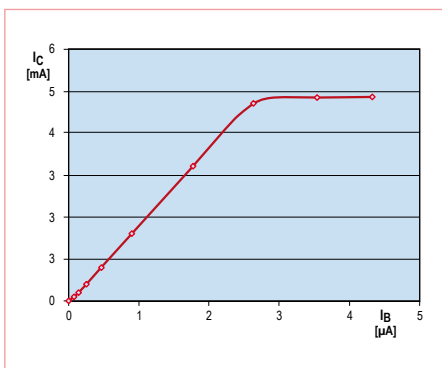

Figure 3. Collector current as a function of base current.
**Figure 3** ( $I_C$  versus  $I_B$ ) shows that the collector current increases linearly with the base current (in the first approximation) until it stops rising at just under 5 mA, which is called the saturation point of the transistor. In any case it isn't possible to measure more than 5 mA with this circuit because the collector resistor limits the current to 5 mA ( $5\text{ V} \div 1\text{ k}\Omega = 5\text{ mA}$ ). You can also clearly see that even this 5 mA limit cannot be reached. The transistor is driven fully into conduction ('hard on'), with a residual collector–emitter voltage of slightly less than 0.1 V.